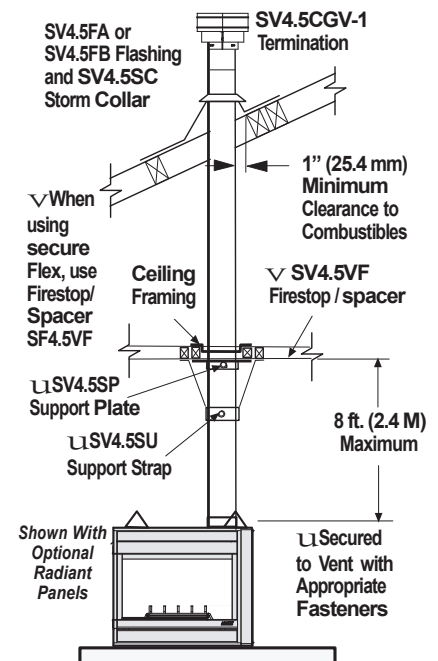

Figure 23
E. Support the vertical vent run sections - **Note - Proper venting support is very important. The weight of the vent must not be supported by the fireplace in any degree.** Support the vertical portion of the venting system every 8 feet (2.4m) above the fireplace vent outlet. One method of support is by utilizing field provided support straps (conventional plumber's tape). Secure the plumber's tape to the framing members with nails or screws. Loop the tape around the vent, securing the ends of the tape to the framing. If desired, sheet metal screws #6 x 1/2" length may be used to secure the support straps to the vent pipe. See **Figure 23**.